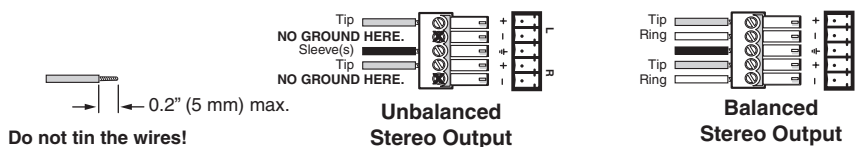

Figure 2-7 — Captive screw connector wiring for audio output
- ⑤ **Audio output connectors** — Connect audio devices, such as an audio amplifier or powered speakers, to these two 3.5 mm, 5-pole captive screw connectors. The connectors output the selected unamplified, line level audio. See figure 2-7 to properly wire an output connector.